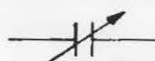

Figure 1.105. Variable capacitor.
Variable capacitors are primarily confined to the smaller capacitance values (up to about 1000pF) and are commonly used in radiofrequency (RF) circuits. Trimmers are available for in-circuit adjustments, in addition to the panel type for user tuning. Figure 1.105 shows the symbol for a variable capacitor.